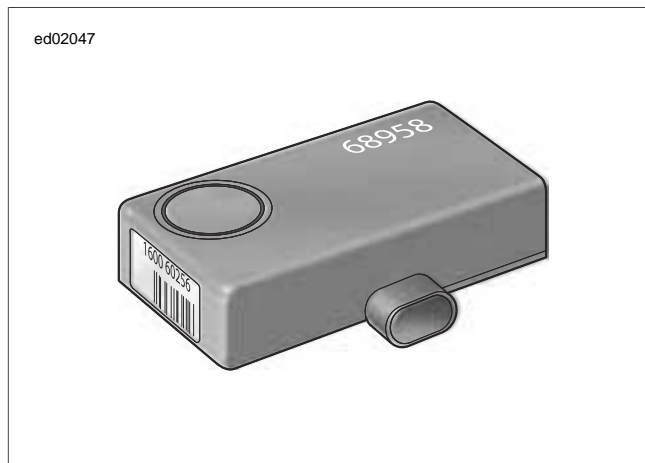

Figure 3-4. Security Siren
- **Security system alarm:** See Figure 3-4. The system alternately flashes the left and right turn signals and